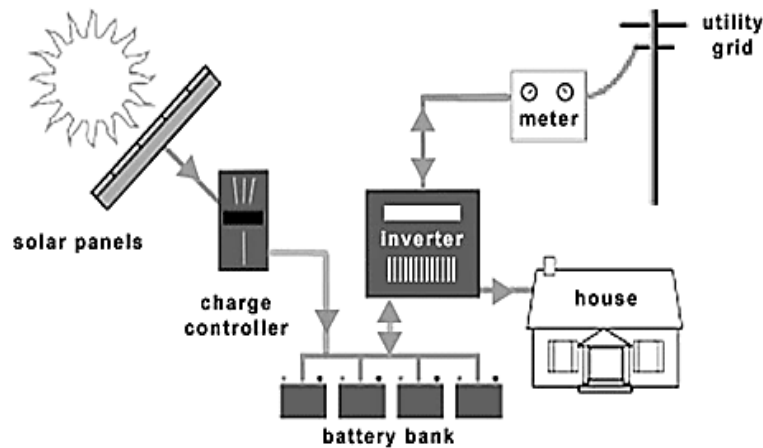

Fig 5. Residential Solar PV system block diagram
**Solar energy:** Energy from the Sun can be used for heating water, cooking food, pumping water and generating electricity. For generation of electricity, solar photovoltaic cells are used. A solar PV cell is made up of silicon which releases electrons when exposed to light. Individual solar cells are connected together to form a panel or module which in turn can be connected in series and parallel to produce a large amount of electricity. Fig. 5 shows a solar PV system which can be set up at homes.